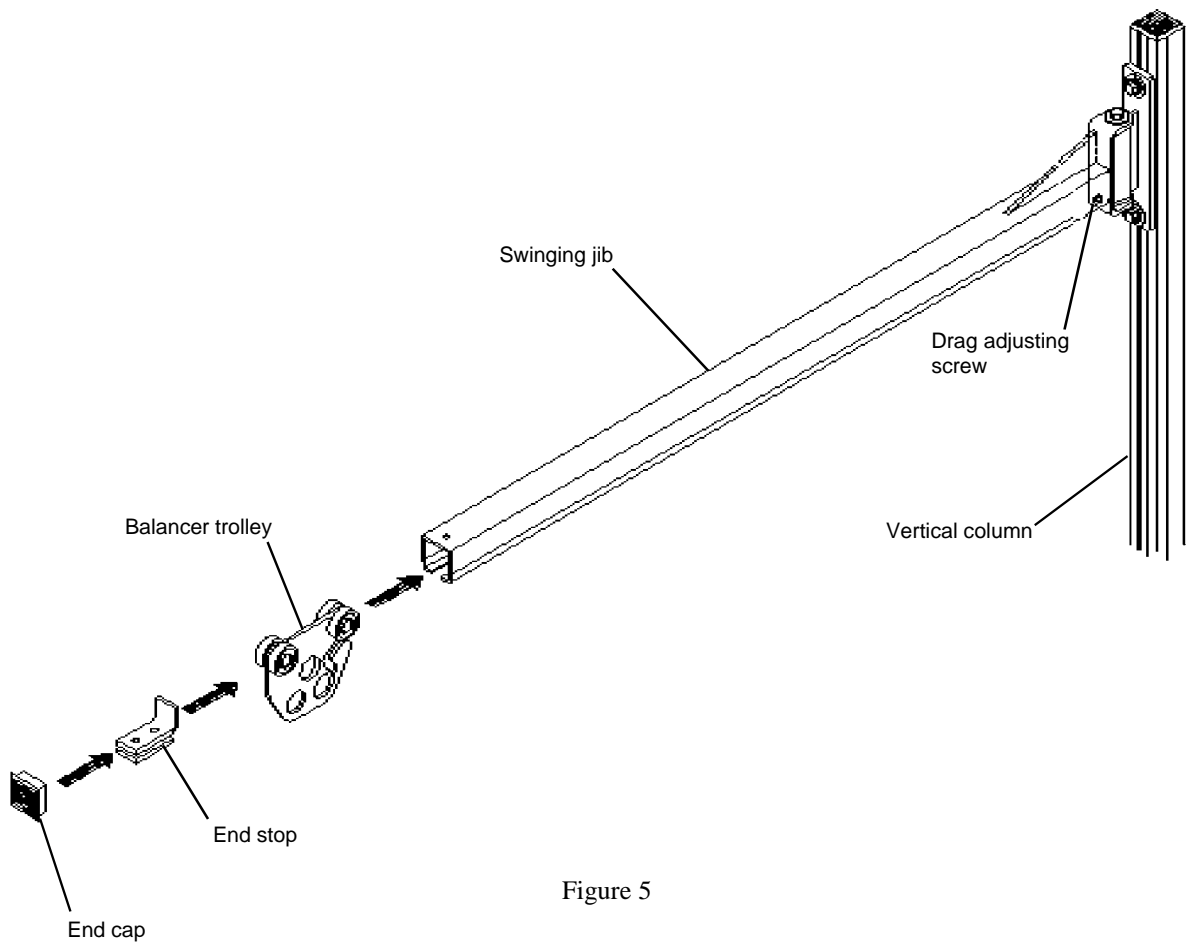

Figure 5
5. Insert the Balancer Trolley and the End Stop into the Swinging Jib Track and then install the End Cap. Lock the End Stop in place by tightening the two nuts on the Stop. See **Figure 5**.
6. Adjust the drag on the Jib by tightening or loosening the adjustment screw. See **Figure 5**.